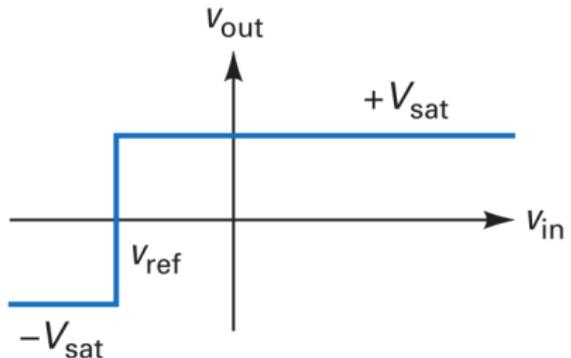

Figure 18: Negative input/output
- ▶ When v_{in} is more positive than v_{ref} , the differential input voltage is positive and the output is high, as shown in Fig. 18.